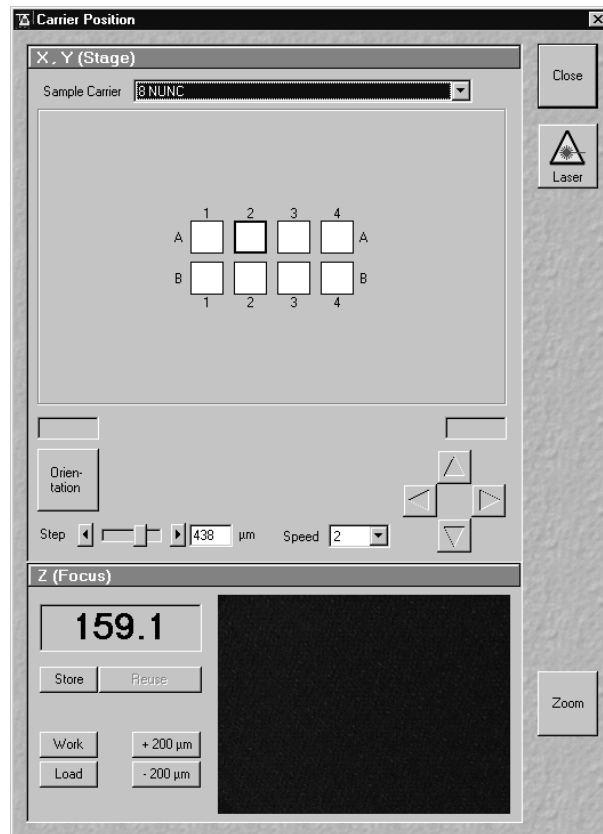

Fig. 4-27 Carrier Position window
- The sample select window (**Carrier Position** window) pops up (Fig. 4-27).
(1) Selecting Carrier
- Select the sample carrier you are currently using in the **Sample Carrier** selection box of the **Carrier Position** window (Fig. 4-27).